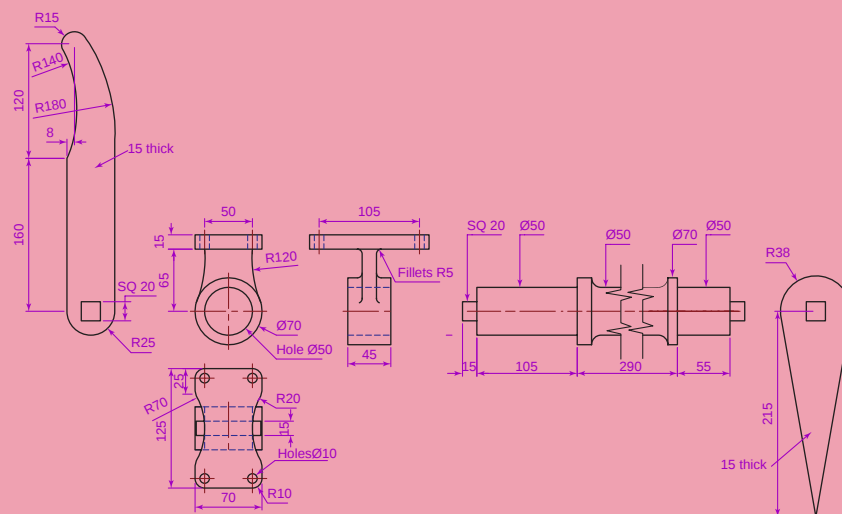
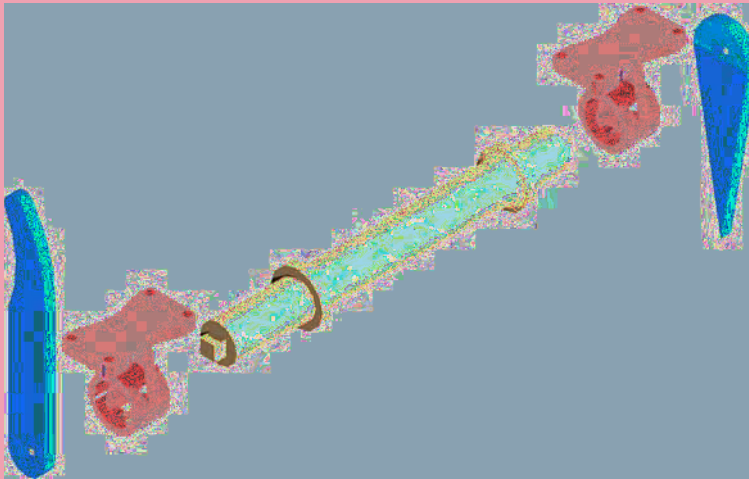

Fig. 19.24 Exercise 5 – details drawing
Fig. 19.25 Exercise 5 – exploded rendered view
5. Working to the details shown in Fig. 19.24, construct an assembled 3D model, with the parts in their correct positions relative to each other. Then separate the parts as shown in the 3D rendered model drawing Fig. 19.25. When the 3D model is complete add suitable lighting and materials and render the result.